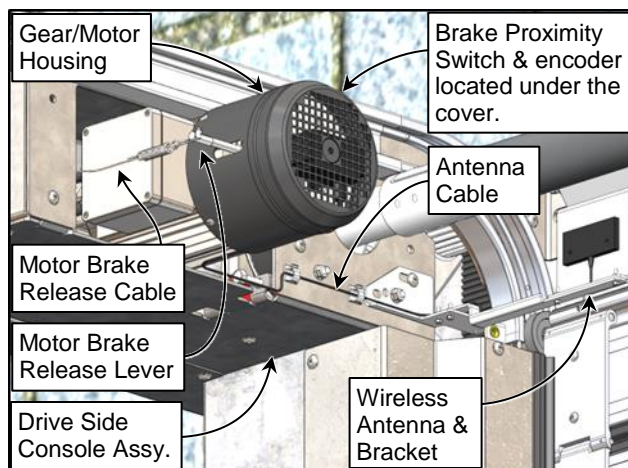

Figure 48
5. Inspect the entire length of the brake release cable(s) running from the brake release handle to the electric brake mechanism located on the drive motor assembly. The cable should not be frayed, worn, or damaged. Replace if necessary. (See Figure 48)